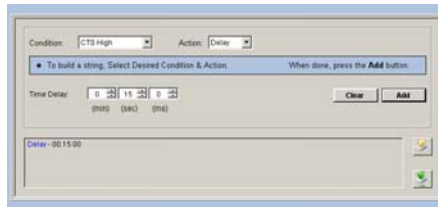

Figure 10 – Time Delay
- When done, the user clicks the **Add** button to append the command to the existing user string to the existing user string as shown in Figure 10.